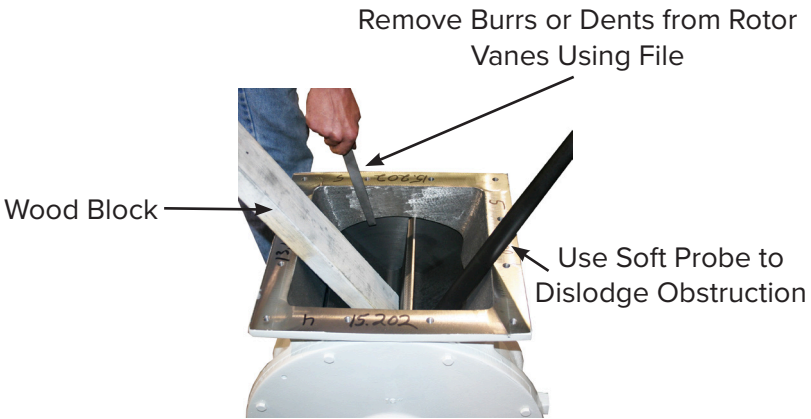

Figure 7
3. Place a block in the airlock to prevent the rotor from turning (see Figure 7).
4. Using a probe, dislodge the obstruction from the rotor and discard (See Figure 7).
7. Remove any burrs or dents using a file (see Figure 7).